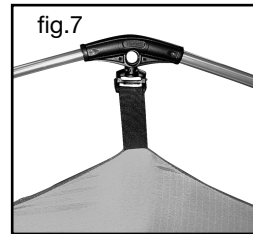
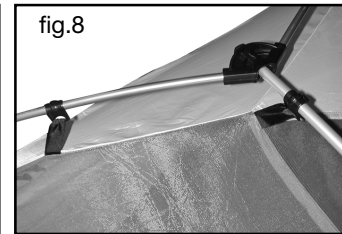

fig.7
fig.8
4. **Attach the tent body to the frame:** There are two types of connectors. First, hang the two hub clips at the center peak. They just twist on/off. See fig.7. Then, work your way down and across the frame, attaching the pole clips as you go. See fig. 8.